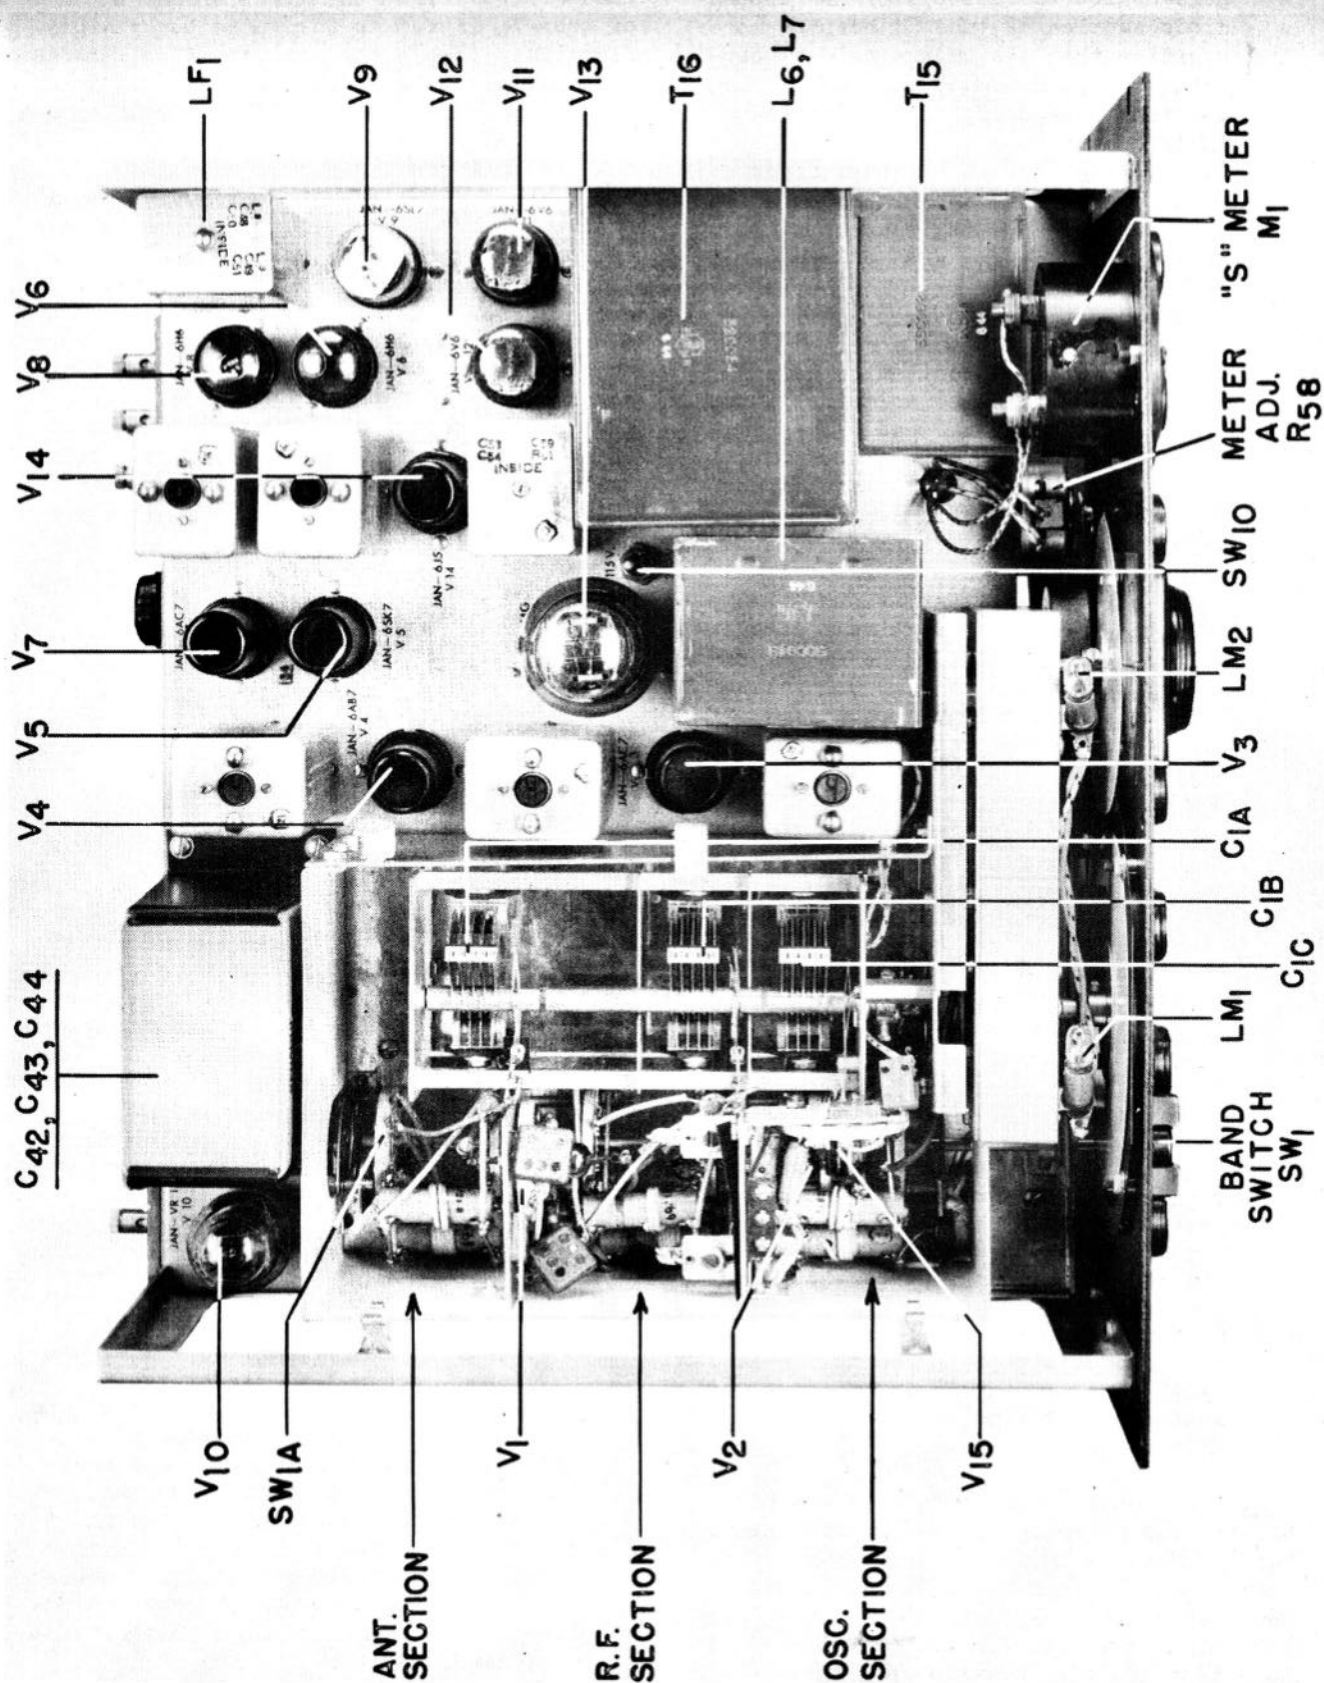

Figure 4. Radio Receiver CHL-46130-D, Top View Of Chassis
**c.** All tubes with the exception of the three acorn type tubes can be reached from the top of the chassis. Acorn tubes V1, V2 and V15 are reached by removing the top cover plate of the r-f sections. See figure 4 for location of all tubes.
a. See that the tubes are secure and in their proper sockets. Reference to figure 4 will show their proper location. The three acorn type tubes are made accessible by removing the shield cover over the r-f section.